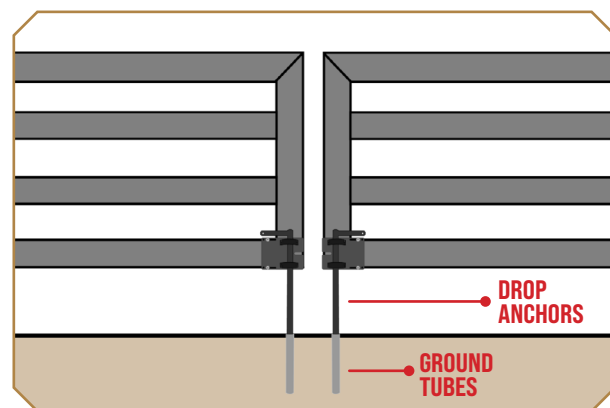

Figure 3
6. The drop tubes with handles are made extra long for various terrain issues. After installation, lower the pin until the padlock holes in the handle and housing align. When marking the cut point, allow for a bit of extra clearance to accommodate any debris that may accumulate in the tube over time. (Figure 3).